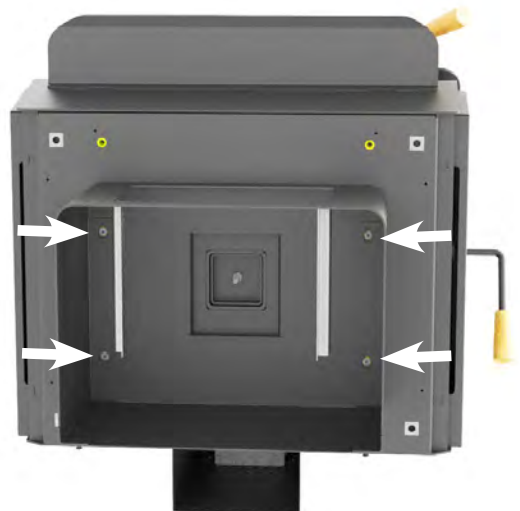

Fig. 10
5. Utilizing the key holes on the top of the pedestal body, slide the pedestal into place by pushing it against the bottom of the stove and then pushing it towards the back of the stove (use the half turned in screws as guide pins) (Fig. 10 the pedestal base is not shown for clarity)